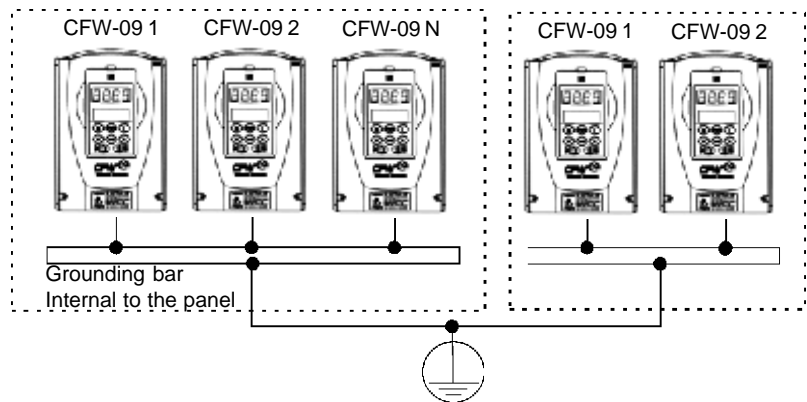

Figure 3.7 – Grounding connections for more than one inverter
Inverters must be grounded for safety purposes (PE). The earth or ground connection must comply with the local regulations. For grounding use cables with cross section as indicated in Table 3.5. Make the ground connection to a grounding bar or to the general grounding point (resistance ≤ 10 ohms). Do not share the ground wiring with other equipment that operate with high current (for instance, high voltage motors, welding machines, etc). If several inverters are used together, Refer to Figure 3.7.